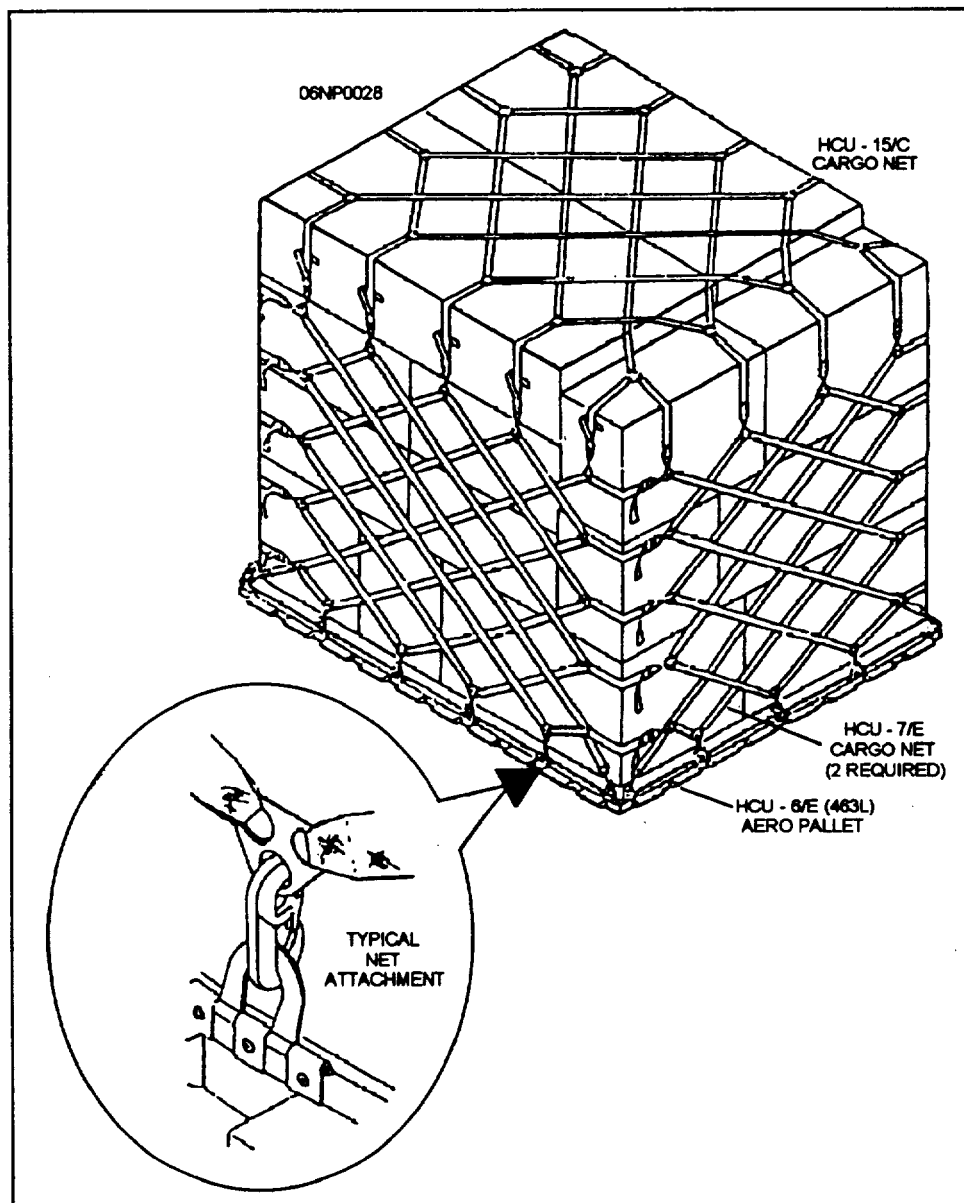

Figure 1-25.—463L pallet with cargo and net.
Once the CESE list has been established, the equipment platoon supervisor must assign operators and co-drivers. Operators are required to accompany the CESE throughout the transport to the mission site and also must stand by their assigned CESE that has been prepared and staged at the marshalling area for the joint inspection (JI). The staging and marshalling area is where equipment and materials are received. CESE is inspected for cleanliness and fluid leaks, mobile loads are completed, vehicles are weighed and marked for center of balance, cargo is palletized on the Air Force 463L cargo pallets (fig. 1-25), and cargo and CESE are placed into a configuration for each aircraft. A pre-JI is held and performed by the battalion embarkation officer and the regiment embarkation staff from Port Hueneme, California, or Gulfport, Mississippi, during the home-port period. When the battalion is deployed overseas, COMCBPAC/COMCBLANT embarkation representatives perform the pre-JI. The pre-JI allows the battalion time to correct any discrepancies before the main JI.